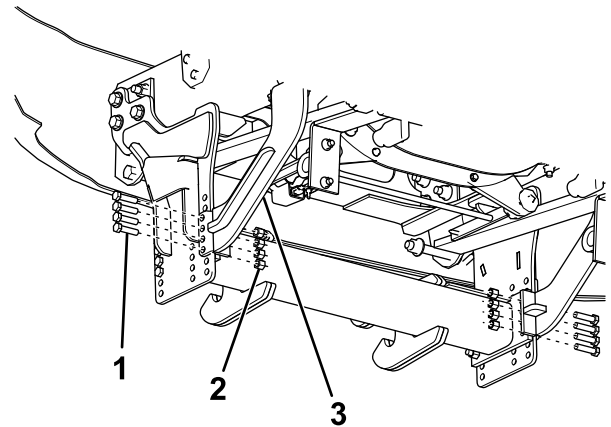

Figure 5
- For model LTA16245, loosely secure the bottom of the angle bracket to the rear of the sideplate and pushbeam using 4 bolts (1/2 x 2 inches) and locknuts (Figure 5).